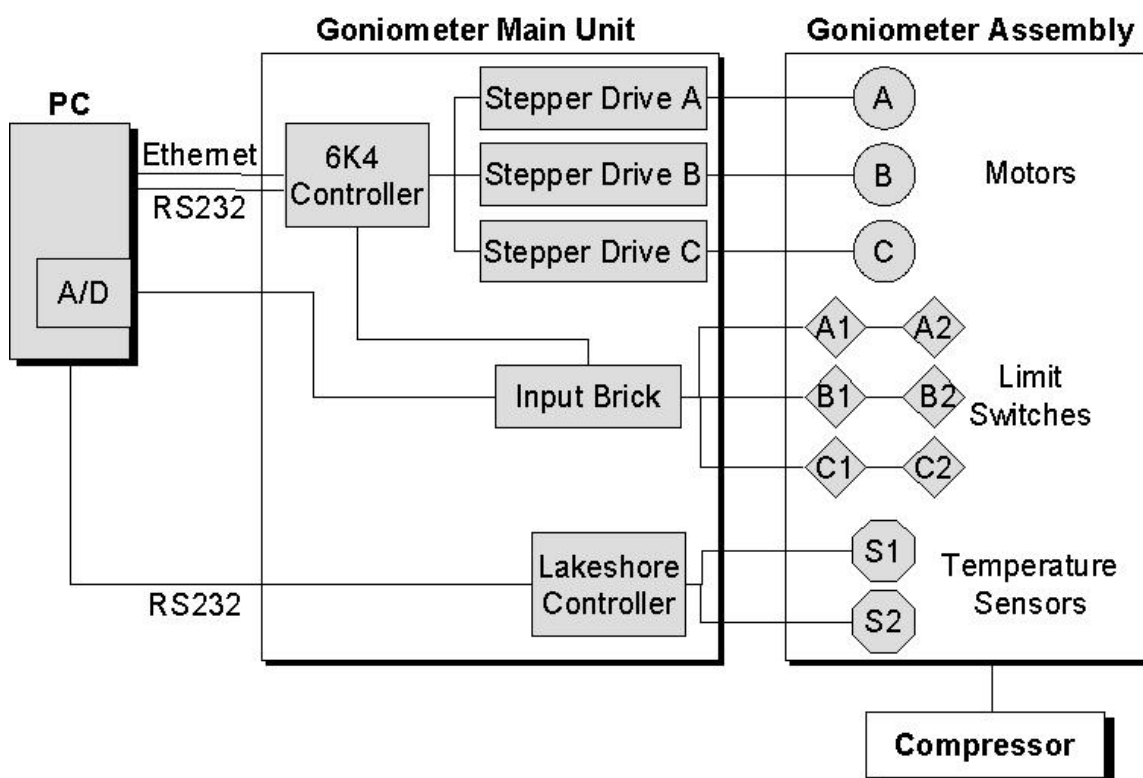

Figure 1: System Schematic of Three-Axis Cryogenic Goniometer Hardware
The system hardware consists of four sub-systems as shown in Figure 1: (1) the goniometer assembly with its stand, (2) the compressor unit for the closed-cycle helium refrigerator, (3) the goniometer main unit, and (4) a dedicated personal computer. The focus here is solely on the aspects of motion control and not on the cryogenic performance and control.